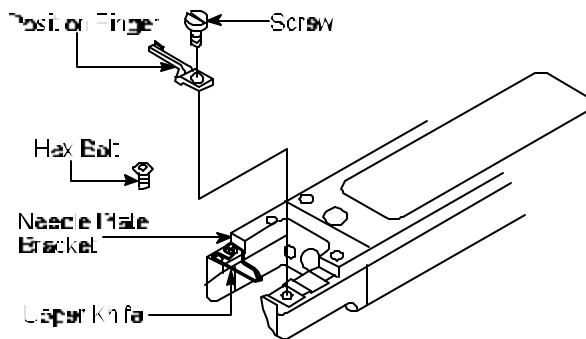

Figure 5
26. **Upper Knife** tip rests on Position Finger and back rests flush against Needle Plate Bracket. See Figure 5. (If applicable)